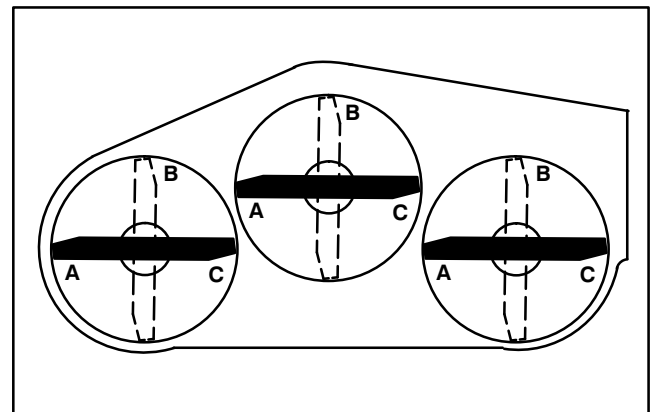
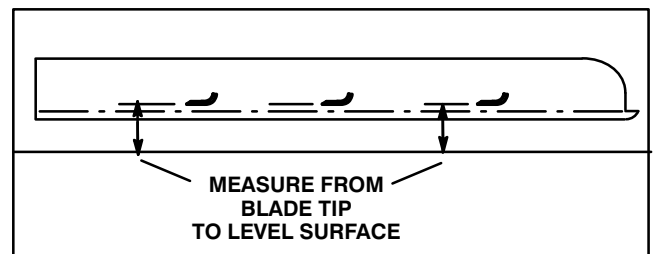

Figure 33
Figure 34
(Fig. 33–34)
5. Position all three blades in the “A” position (Fig. 33) and measure from level surface to the bottom of the tip end of each blade (Fig. 34).
6. Note measurement attained at “A”, rotate blades to “B” position (Fig. 33), measure distance of all blades to level surface and note dimensions (Fig. 34).
7. Rotate blades to “C” position, measure and note distance measured (Fig. 33, 34).